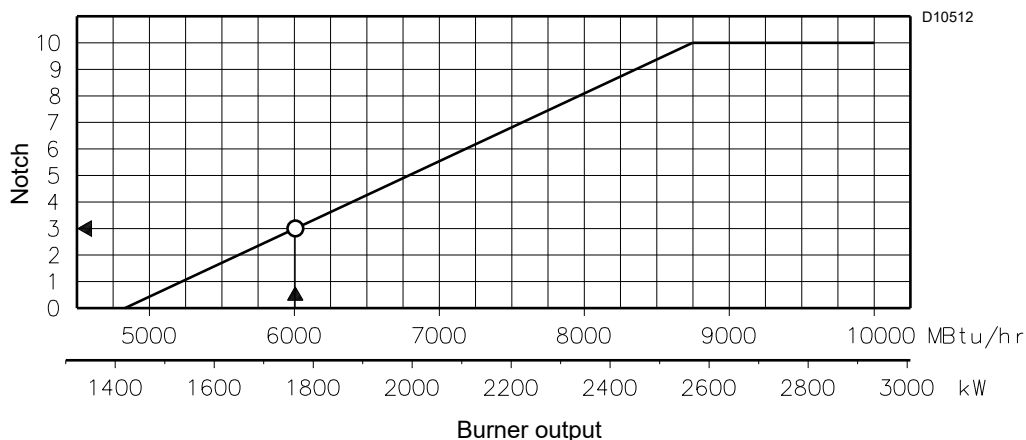
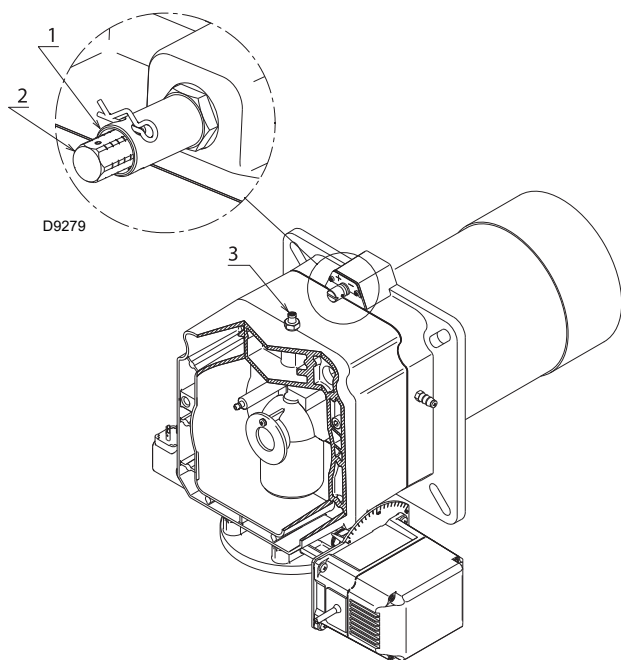

Fig. 14
Fig. 15
In the diagram of Fig. 14, find the notch at which to adjust both air and central gas/air.
Rotate the screw 2)(Fig. 15) until the notch you have found corresponds with the front surface 1) of the flange.
To facilitate adjustment, loosen the screw 3)(Fig. 15), adjust and then lock.
The diagram of Fig. 14 shows that the adjustments for this potential is external air R1 = notch 3.
- Ring nut 2)(Fig. 15, page 18) adjusted as in the diagram of Fig. 14, page 18
- Ring nut 2)(Fig. 15) adjusted as in the diagram of Fig. 14